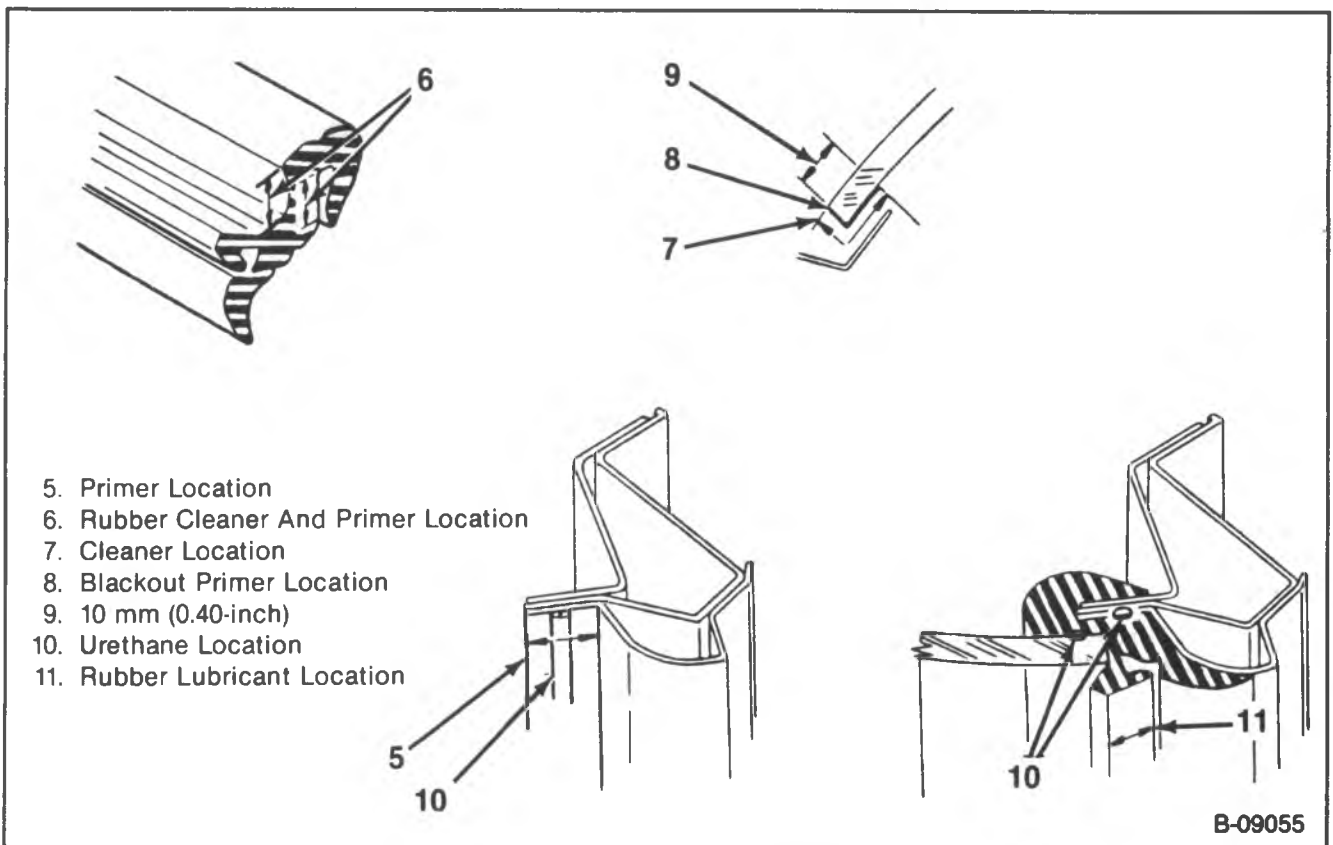

Figure 3 — Primer and Adhesive Application Locations
Install or Connect (Figures 3 and 4)
7. Urethane adhesive bead with a 4.5 mm (.18-inch) diameter to the rubber weatherstrip glass channel using J 24811 (figure 3).